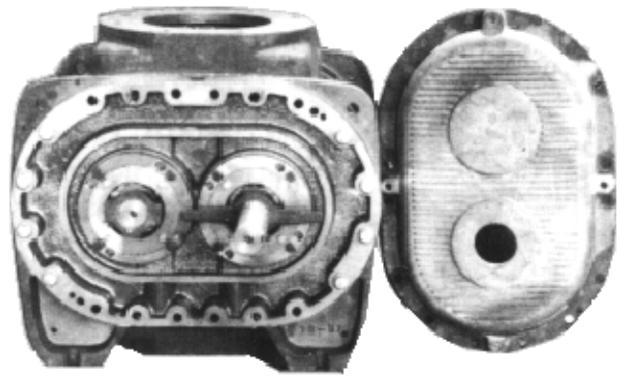

FIGURE 17 - DRIVE END
To check or establish the gear-end clearance, use a sleeve made to substitute for the gear and grip ring assembly (items 5 and 6 on the parts cross section, FIGURE 17, page 31). With the gear locking clamp in place over the shaft end, and against the spacer sleeve, tighten the cap screws to 40 ft. lbs/5.4 kg-m torque. Check the clearance between the impeller ends and gear headplate. Add or remove shims behind the cartridge flange to establish the clearance given in FIGURE 11, page 14. Then remove the spacer sleeve and install gears, grip rings and locking clamps as outlined in "Setting Impeller Clearances," page 15. Note finished torque value.
Refer to FIGURE 17. Remove the drive cover. Unbolt and remove the oil slinger from the shaft, noting its relative position for later replacement; spread slightly to avoid scratching the shaft. The bearing cartridges can now be removed following the procedure described
6" VERTICAL Reference Figure 17, Page 31, for Exploded View
Reference Figure 17, Page 31, for Exploded View**